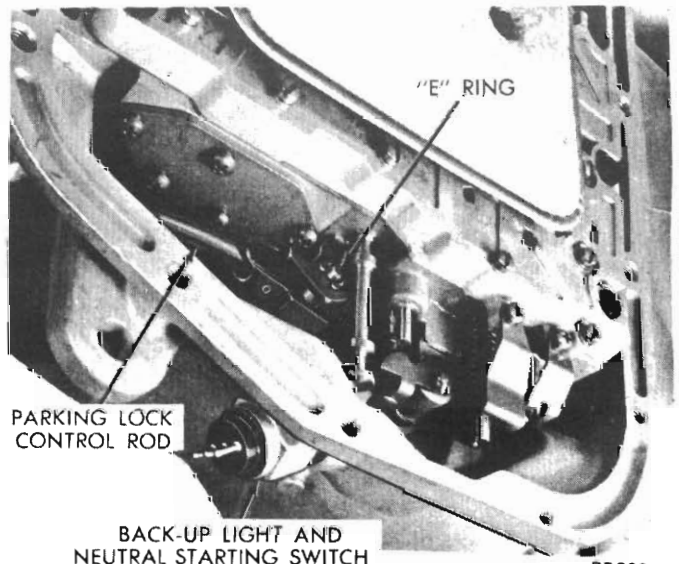

Fig. 42 - Parking lock control rod retaining E-clip
(4) Remove E-clip (Fig. 42), securing parking lock rod to the valve body manual lever.
(5) Remove Back-Up Light and Neutral Start Switch.
(6) Place a drain pan under transmission, then remove the ten hex-head valve body to transmission case bolts. Hold valve body in position while removing the bolts.
(7) While lowering valve body down out of transmission case, disconnect parking lock rod from the lever.